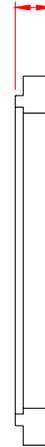

Fig. 22
- Measure the seal ring in accordance with Table 10 (Fig. 22).